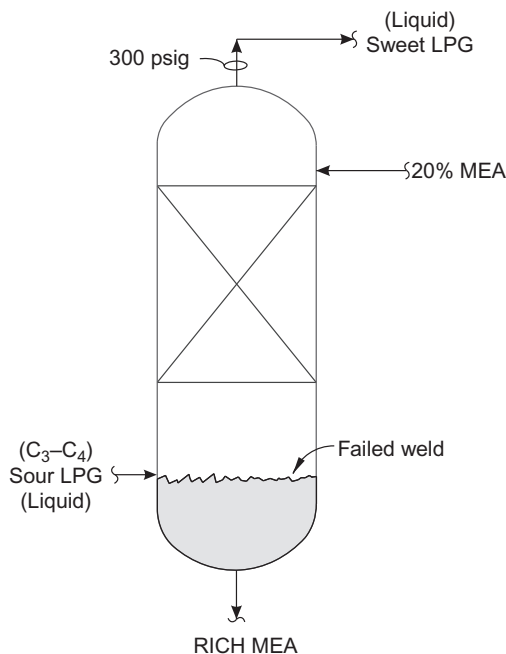

FIG. 46.3 Lack of postweld heat treating results in death and disaster. 18 killed—Unocal.
- Failed to properly inspect the vessel for cracks at repair welds, during turnarounds (see Fig. 46.3).